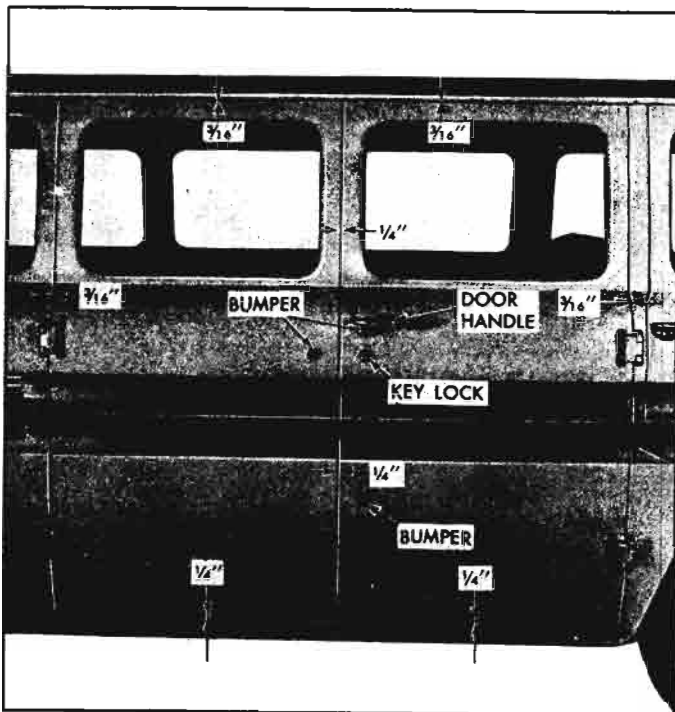
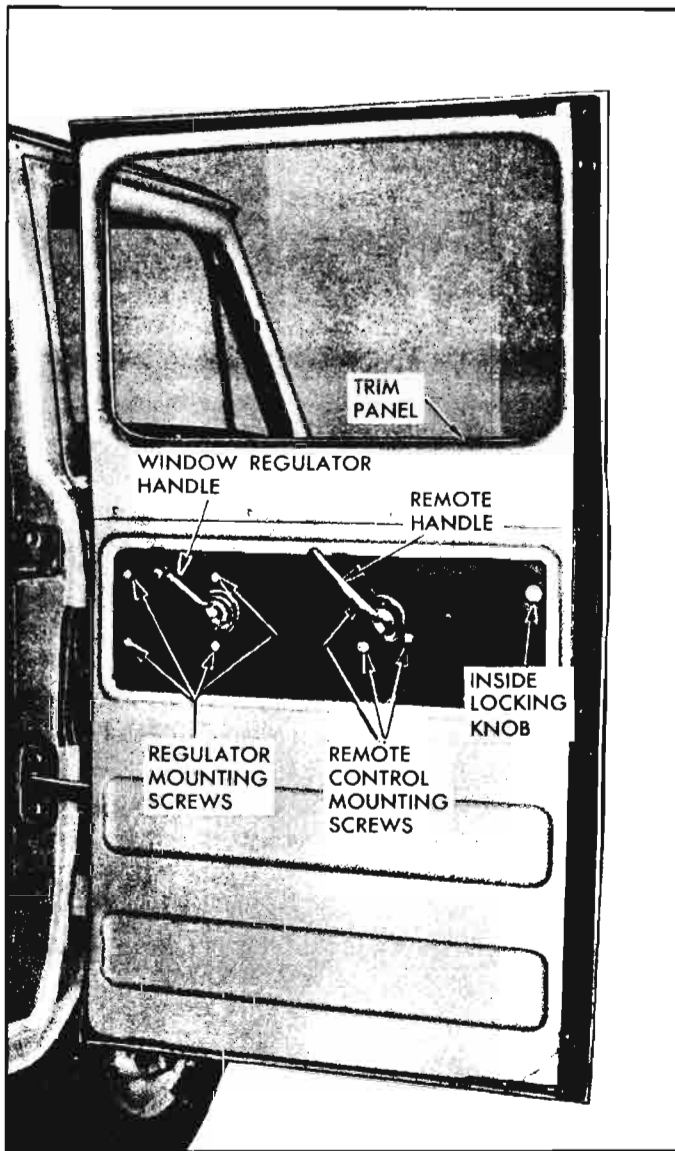
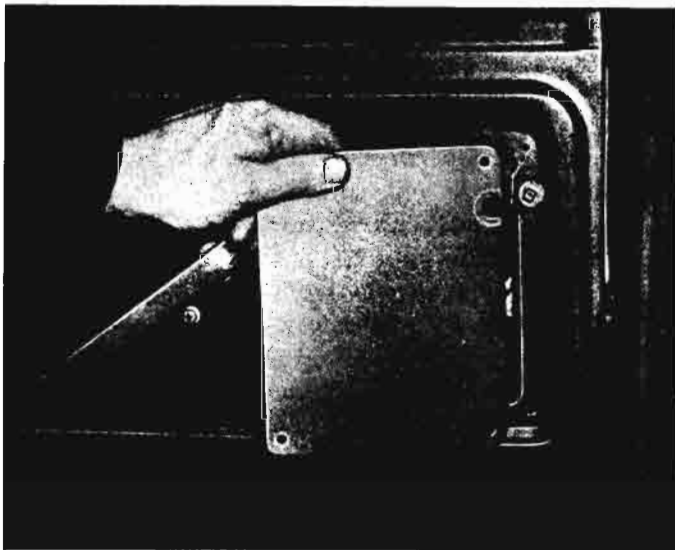
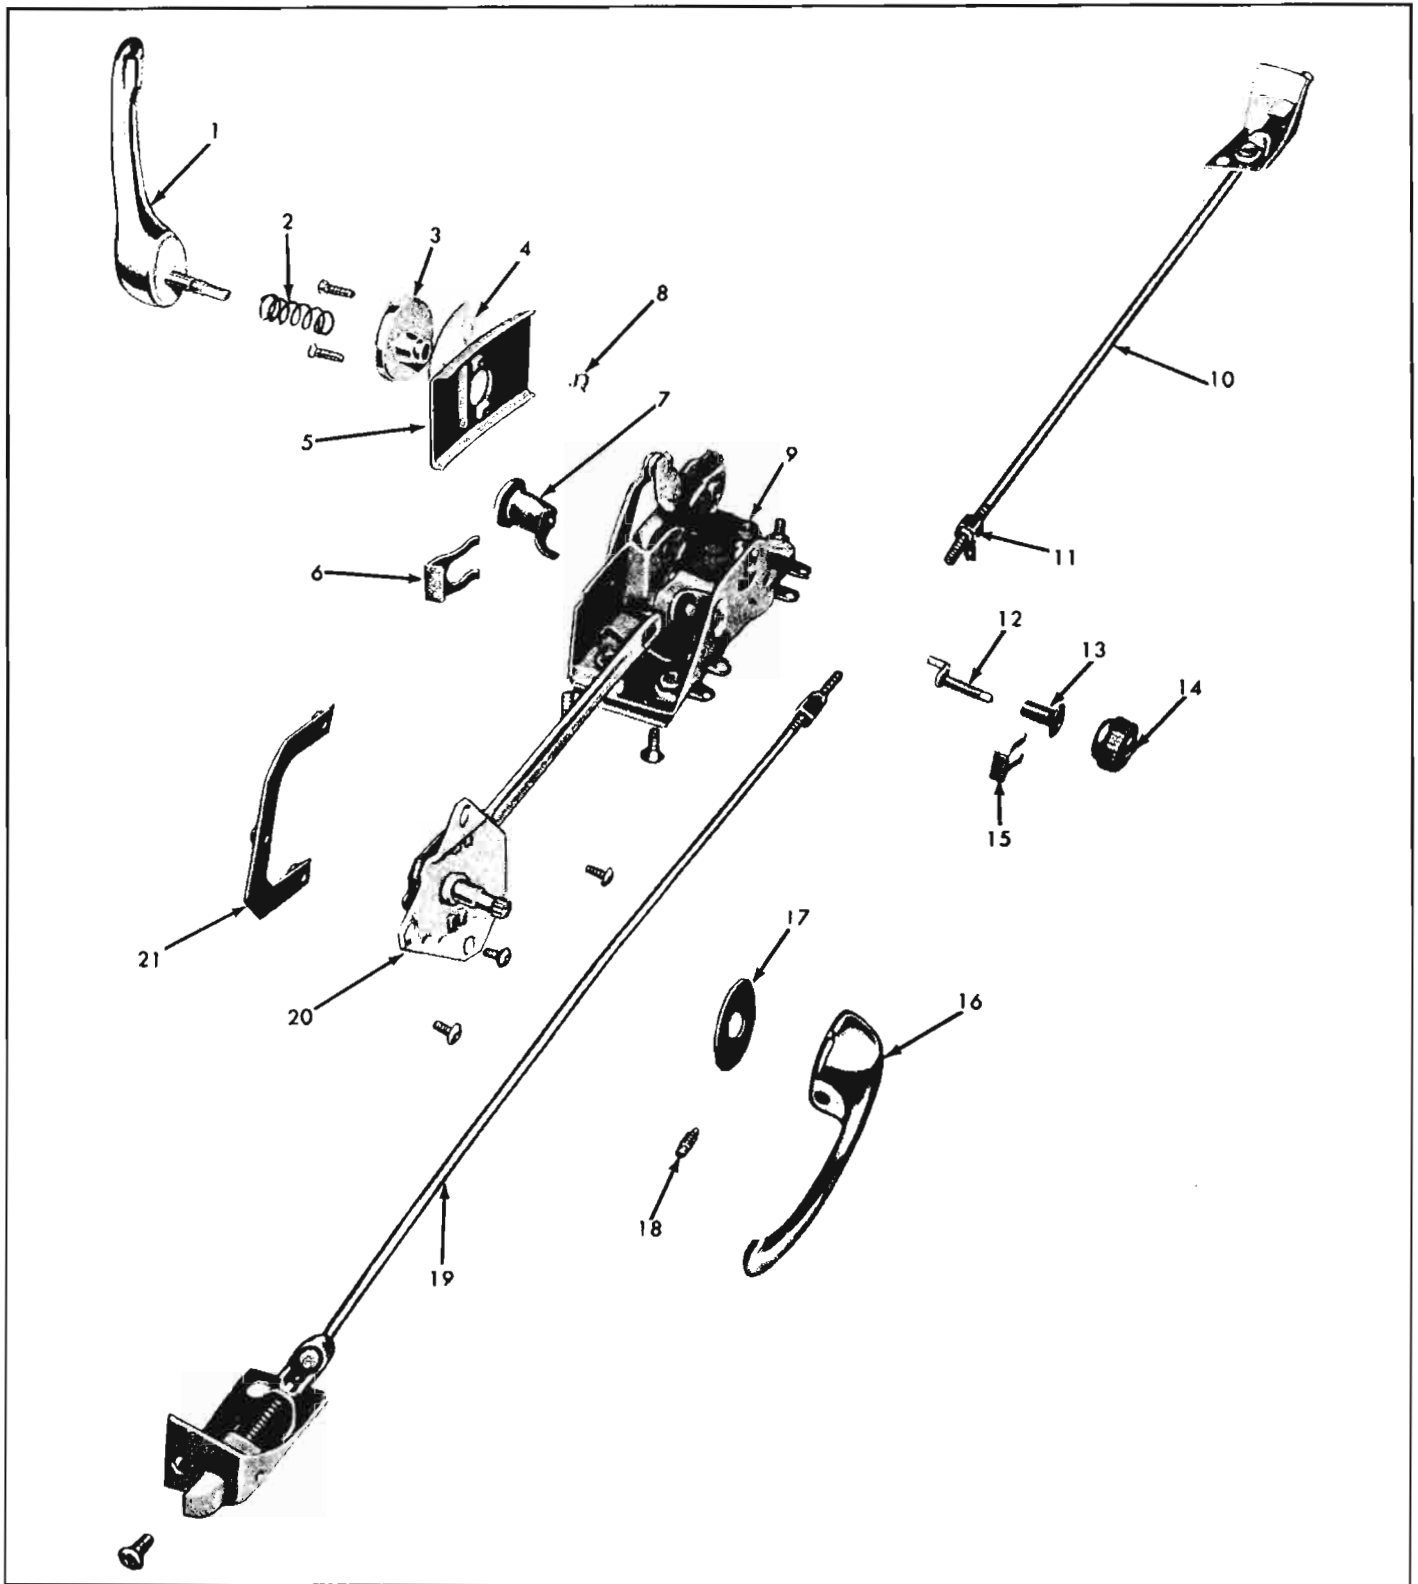

Fig. 10-61a—Side Double Door Clearance
Fig. 10-64a—Side Door Window Regulator and Trim Panel
Fig. 10-68a—Side Door (Inter.) Lock Access Cover
Fig. 10-70a—Exploded View—Side Intermediate Door Lock Mechanism
The doors should be flush or within $\frac{3}{16}''$ of being flush at the vertical lips of the doors (fig. 10-61a). There should be $\frac{3}{16}''$ at the top and sides of each door. There should be $\frac{1}{4}''$ clearance between the vertical centers and the bottom with both doors closed.
2. Remove door trim panel (fig. 10-64a) retaining screws and remove trim panel.
7. Install trim panel and retaining screws (fig. 10-64a).
3. Remove four regulator mounting screws (fig. 10-64a) from door inner panel and remove regulator assembly.
4. Install regulator assembly through opening at door inner panel. Install four retaining screws (figs. 10-64a and 10-65a).
8. Install trim panel and retaining screws (fig. 10-64a).
Both an inside and outside release handle is provided for the side intermediate door. The inside release handle is identical to that used for the front doors (fig. 10-64a), while the outside release (fig. 10-61a) is a 2-position lever-type handle. In the "closed-door" position, the handle is horizontal; to open the door, the handle is turned downward 45 degrees; after the door is opened, the handle automatically moves upward to the horizontal position, setting the lock bolts so the door can be closed. A rubber bumper integral with the side intermediate door handle eliminates interference with the body when the door is fully opened; another rubber bumper on the side rear door outer panel serves the same purpose (fig. 10-61a).
A separate key lock (fig. 10-61a) below the inter-
mediate side door handle locks both side doors since the side intermediate door laps over the side rear door. Both doors can be locked from the inside with a locking knob (the locking knob has a notch on the face of the knob. When notch is up, door is locked. When knob is turned to the left, the door is unlocked) (fig. 10-64a) located on the inner panel of the front side door. Should the doors be locked from the outside, they cannot be unlocked from the inside since the inside and outside locks operate independently of each other. See Figure 10-70a exploded view of the side intermediate door lock mechanism.
2. On panel doors, remove lock assembly access cover retainer screws and remove cover (fig. 10-68a). On doors equipped with windows, remove trim panel (fig. 10-64a).
1. Remove trim panel on doors equipped with windows, and on panel doors remove access cover (fig. 10-68a).
1. On panel door models, remove access cover shown in Figure 10-68a. On doors with windows, remove trim panel retaining screws (fig. 10-64a) and remove trim panel.
2. Remove remote control handle set screw (18, fig. 10-70a) and remove remote control handle and gasket washer.
2. Install remote control assembly mounting screws (fig. 10-64a) while holding plate nut assembly behind control.
4. On models so equipped, install trim panel or access cover, Figures 10-64a and 10-68a.